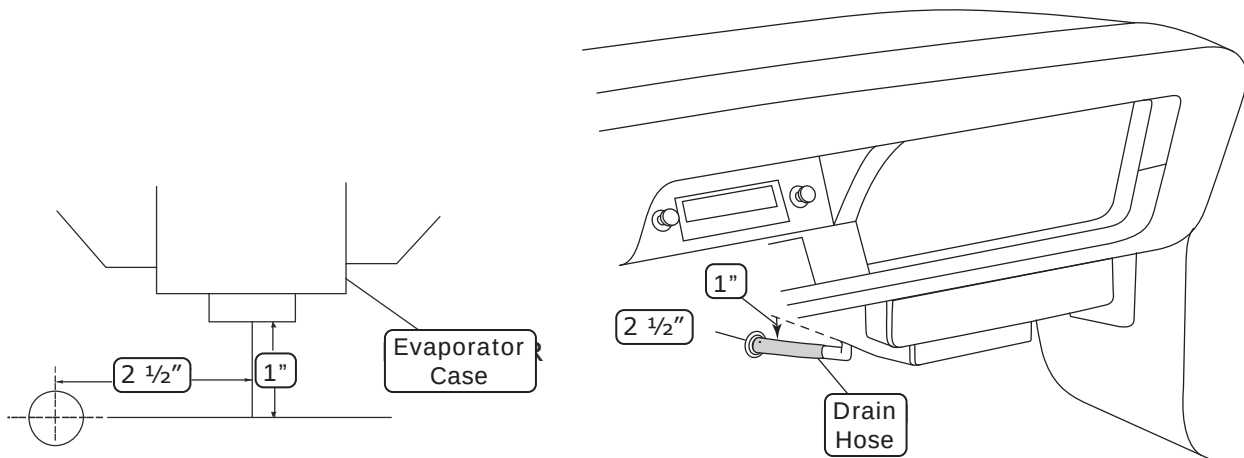

Figure 1
3. Install the drain hose onto the bottom of the evaporator module, then route it through the firewall (See Figure 1, below).
1. Locate the #8 compressor A/C hose. Lubricate (2) #8 O-rings (See Lubricating O-rings, Page 13), and connect the 45° female fitting with 134a service port to the #8 discharge port on the compressor. Then route the 90° female fitting to the #8 condenser hardline coming through the core support (See Figure 1, Page 20). Tighten each fitting connection.